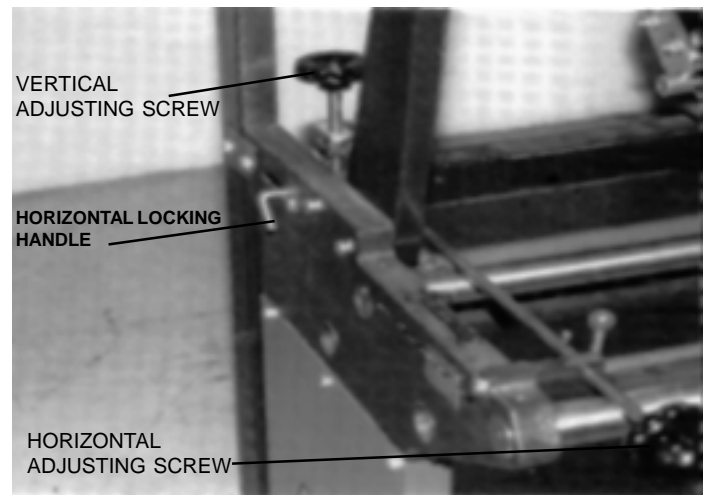

Fig. 6
C. Loosen the locking knob on the pivot assembly located on the left side of the square mounting bar so that it can be adjusted in both the vertical and horizontal plane. (See Fig. 6)